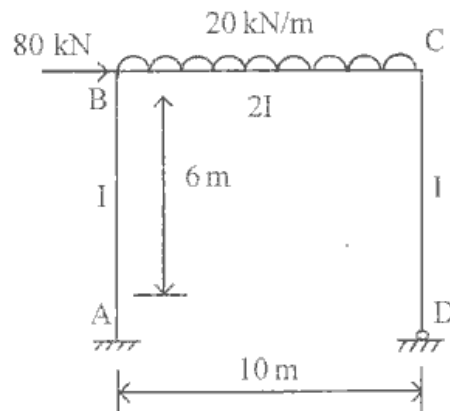

Fig.3
3. Analyse the rigid plane frame shown in Fig.3 by flexibility matrix method. Draw bending moment diagram. Take EI as Constant.